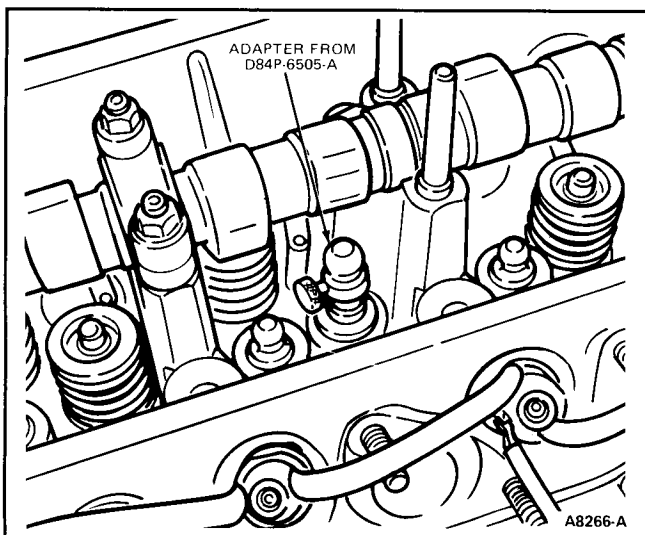

FIG. 65 Valve Stem Clearance Adapter
4. Install valve stem clearance Adapter Ball (part of D84P-6505-A) or equivalent on valve stem (Fig. 65).